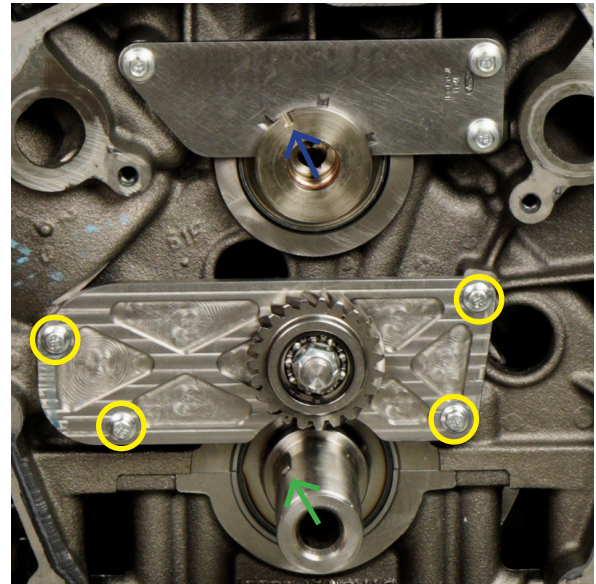

Fig. 3
- 1. Rotate crankshaft so that keyway is aimed towards cylinder 1 at roughly a 45 degree angle (Fig. 3 - Green)**
- 2. Rotate camshaft so that locating pin recess is aimed towards cylinder 1 at roughly a 30 degree angle (Fig 3. - Blue)**
- 3. Apply blue loctite to idler plate bolts and install idler plate FINGER TIGHT ONLY. (Fig 3. - Yellow)**